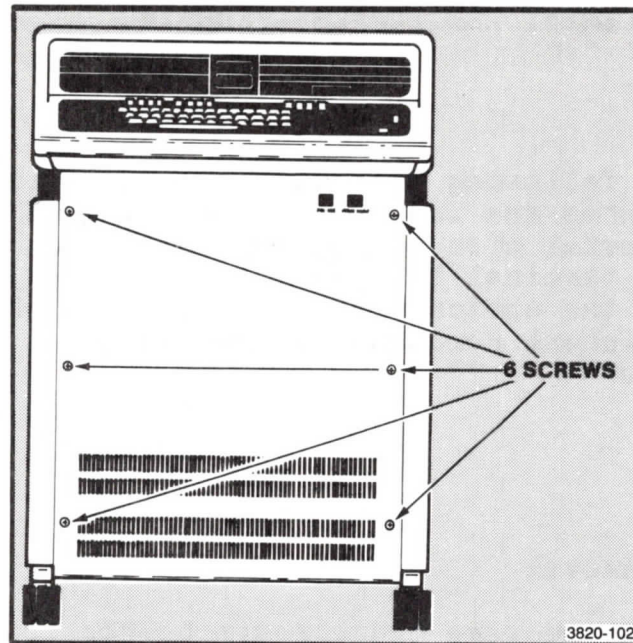

Figure 11-9. Removing the Front Cover.
The front cover (underneath the keyboard) is held on by six screws, three on each side. After removing these screws, the front cover is free of the chassis and can be removed. (See Figure 11-9.)
3. Remove the front cover. (See Figure 11-9.)
3. Remove the front cover as shown in Figure 11-9.
1. Remove the front cover and rear panel as shown in Figures 11-9 and 11-10.